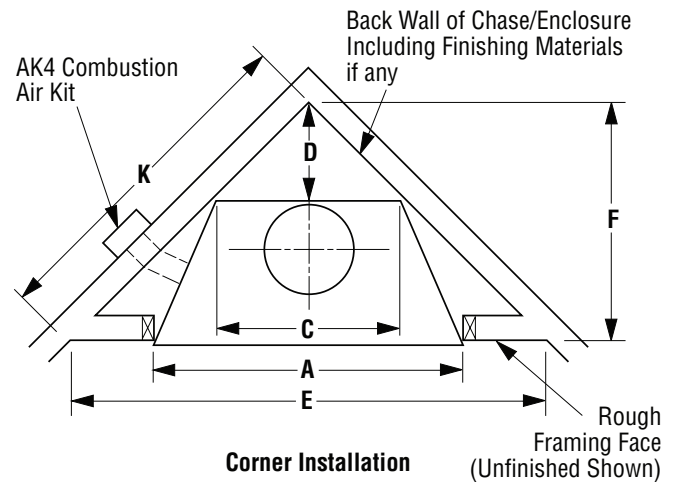

**Figure 4 - Fireplace Framing**
1. The location must allow for proper clearances (see Figures 4 thru 7).
1. Frame opening for fireplace using dimensions shown in Figures 4 and 5.